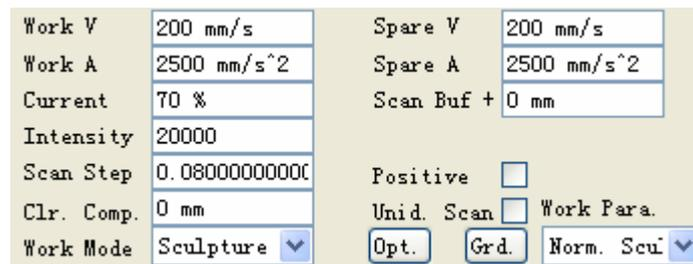

Figure 6-23 Set Parameters 5
- Set the parameters in the mission manage dialog box. Choose the Sculpturing the slope in working mode combo box, choose normal sculpture in the mission's parameters configure combo box, the software will set all the parameters automatically, likes the Figure 6-23 shows: